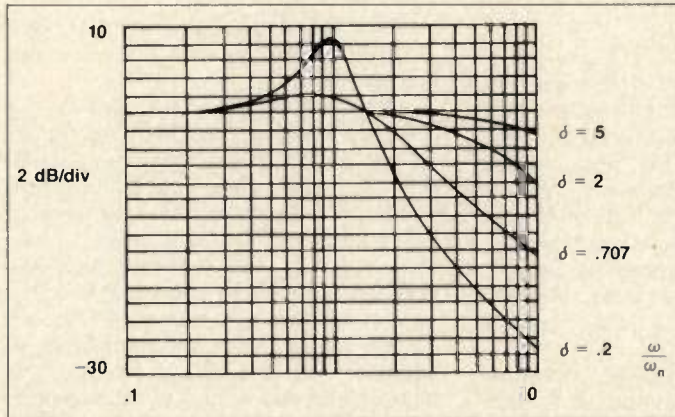

Figure 3. The phase transfer function in normalized form.
A MathCAD generated set of plots of this low pass function is shown in Figure 3 below. The case $\zeta < 1$ is referred to as underdamped, and the case $\zeta > 1$ as overdamped. The case $\zeta = \sqrt{2}$ is the most common design choice, as it affords the fastest recovery from transient conditions, and is near optimal for loop suppression of oscillator noise (2). The frequency $\omega = \sqrt{2} \times \omega_n$ is referred to as the loop bandwidth.